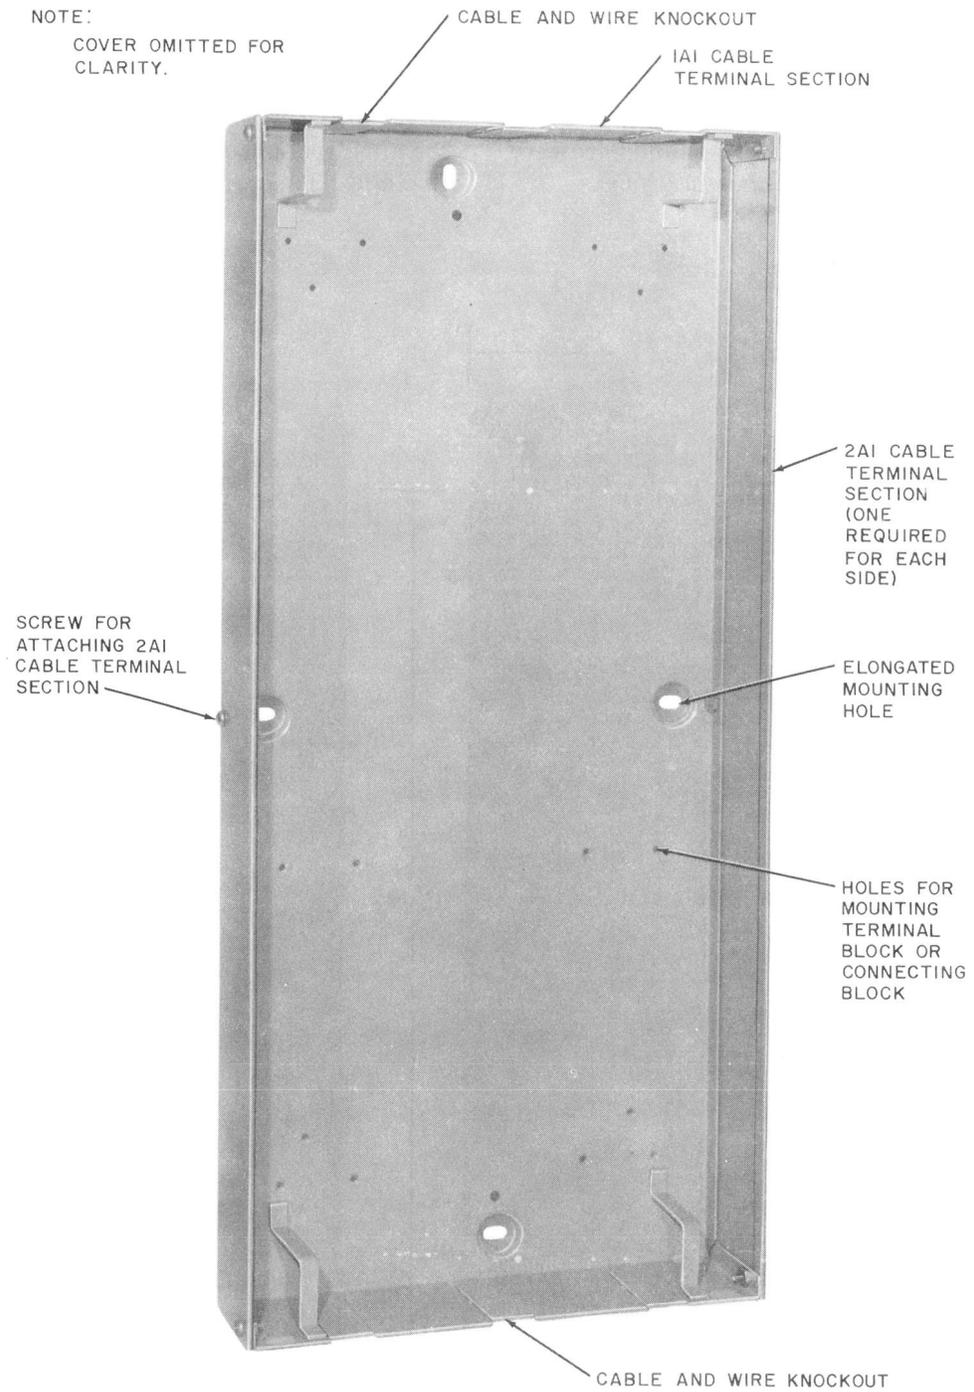

Fig. 7—1A1 Cable Terminal Section With Two 2A1 Cable Terminal Sections Installed
2.10 The 1A1 cable terminal section (Fig. 7) is constructed of sheet metal and has an olive-green baked enamel finish. The 1A1 section is provided with a removable cover, knockouts in the top and bottom for cable and wire entrances, eight screws for mounting terminal blocks, and six screws for attaching the 2A1 cable terminal section to the 1A1 cable terminal section. The 1A1 cable terminal section is 23-11/16 inches high, 10-1/4 inches wide, and 2-11/16 inches deep. The 1A1 cable terminal sections can be joined to provide any width closure.
2.11 The 2A1 cable terminal section is a sheet metal section used to enclose one end of a single or multiple installation of 1A1 sections. The 2A1 cable terminal section installed on a 1A1 cable terminal section is shown in Fig. 7.